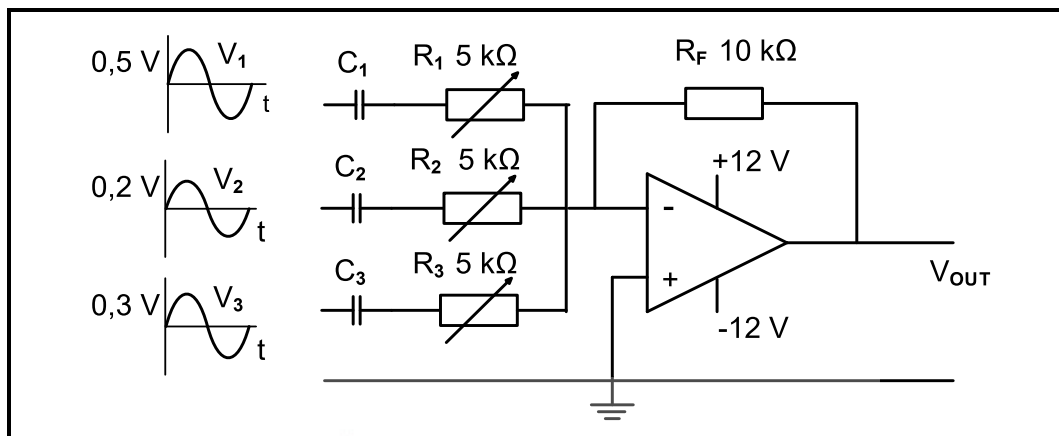

FIGURE 3.6: INVERTING SUMMING AMPLIFIER
3.6 Refer to FIGURE 3.6 below and answer the questions that follow.